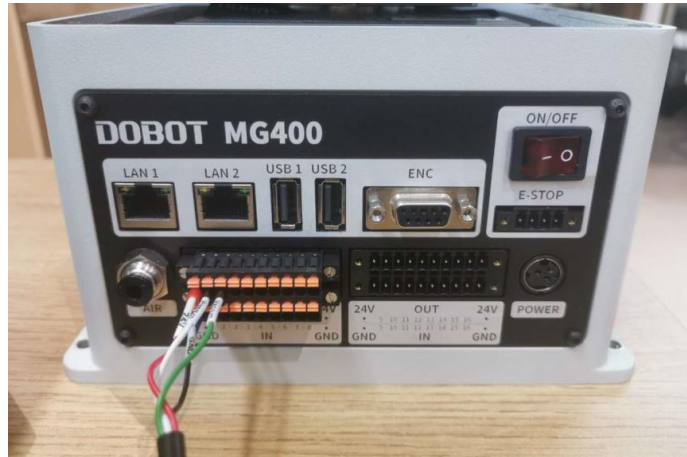

Figure 2.16 Connect gripper cable to MH400
**Step 6** Connect the gripper cable to MH400, as shown in Figure 2.16. Connect 24V and GND port of gripper cable to 24V and GND port of MG400 respectively. Connect Pressure and Vacuum port to any DO port of MG400.